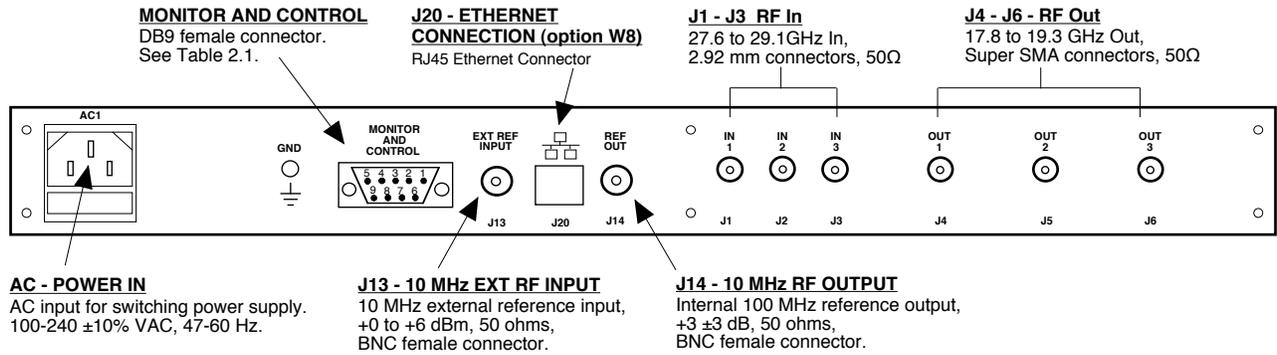

FIGURE 2.2 3116-T291 Rear Panel Inputs and Outputs
2.2 Rear Panel Input / Output Signals - Figure 2.2 shows the input and output connectors on the rear panel.
1. Connect -3 dBm to +7 dBm, 27.6 to 29.1 GHz signals to the RF INPUTS J1, J2 and J3 (Figure 2.2).